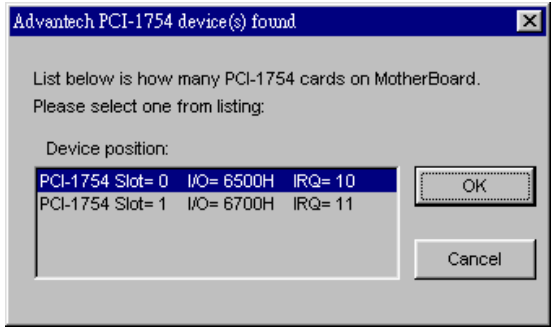
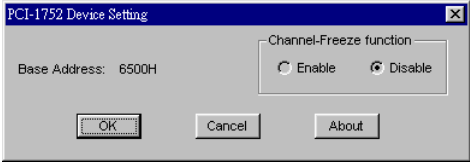

Fig. 2-8 The “Device(s) Found” dialog box
Fig. 2-9 The Device Setting dialog box of PCI-1752
Step 4: Scroll down the *List of Devices* box to find the device that you wish to install, then click the **Install** button to evoke the *Device(s) Found* dialog box such as one shown in Fig. 2-8. The *Device(s) Found* dialog box lists all the installed devices on your system. Select the device you want to configure from the list box and press the **OK** button. After you have clicked **OK**, you will see a *Device Setting* dialog box such as the one in Fig. 2-9 and 2-10.
Step 5: On the *Device Setting* dialog box (Fig. 2-9, 2-10), you can enable/disable the Channel-Freeze function of PCI-1752/1756 or configure the interrupt functions of each digital input group of PCI-1754/1756.